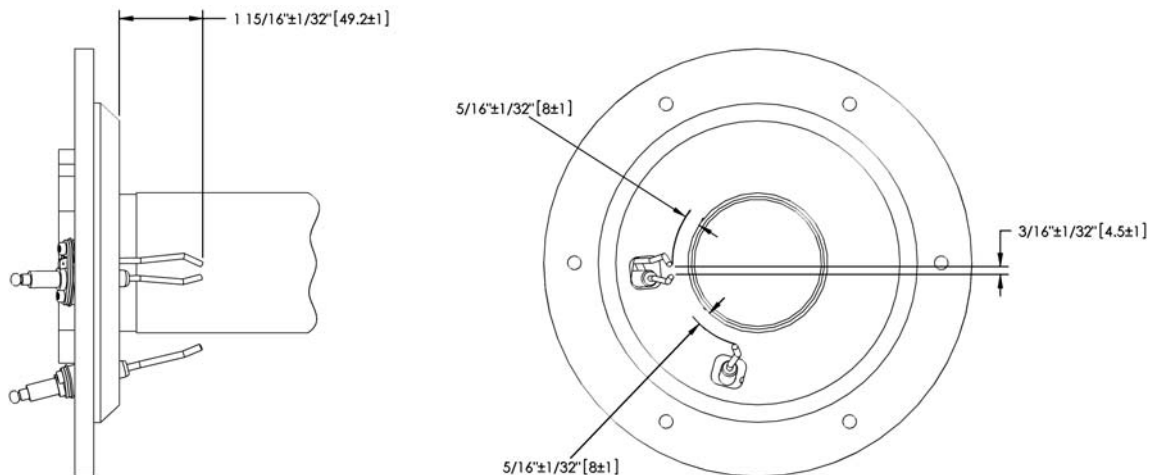

Figure 10.10: Correct Flame Rod and Ignition Electrode Position
- check that the position of the flame rod is within 5/16" (9 mm) of the burner. Figure 10.10 shows the correct position of the flame rod and ignition electrode